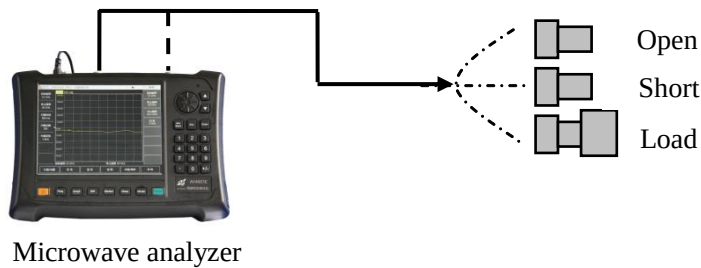

Fig. 4-15 Test block diagram of effective direction, effective source matching and reflection tracking
Test block diagram is shown in Figure 4-15:
- 3) Press **【Calibrate】** →[Cal Kit] to select the correct calibration kit, then press [M Cal]→[One Port@S11], as shown in Fig. 4-15, to complete the measurement of standard parts such as OPEN, LOAD and SHORT, and finally press [Done] to complete the calibration;
- 3) Press **【Calibrate】** →[Cal Kit] to select the correct calibration kit, then press [M Cal]→[Resp. & Iso S12]→[Iso], as shown in Fig. 4-15, connect the anode-anode or cathode-cathode test cable to Port 1 or Port 2, connect the LOAD at the end of the cable to the other port, and finally press [Iso] to complete isolation calibration;
- 3) Press **【Calibrate】**→[Cal Kit] to select the correct calibration kit, then press [M Cal]→[Resp. & Iso S12], as shown in Fig. 4-15, use the test cable to connect Port 1 with Port 2, and finally press [THRU] to complete THRU measurement;
- 7) Press **【Calibrate】** →[M Cal]→[Resp. & Iso S21], as shown in Fig. 4-15, use the test cable to connect Port 1 with Port 2, and finally press [THRU] to complete THRU measurement;